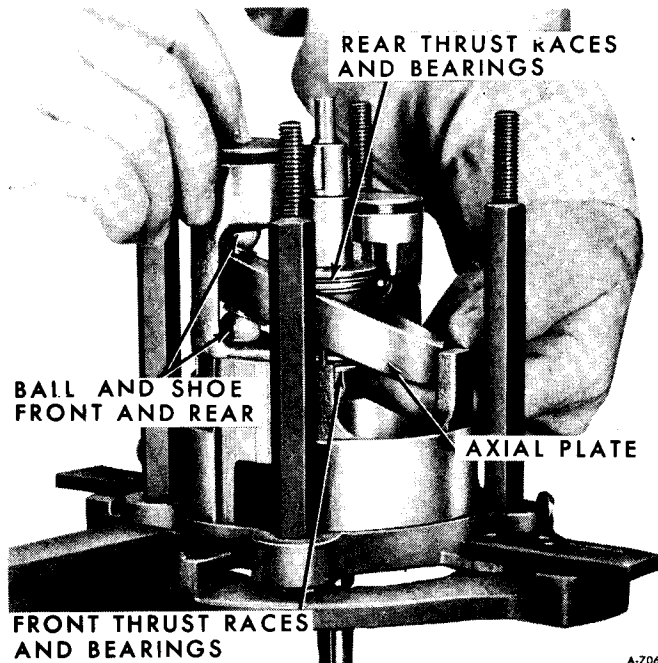

Figure 122—Installing 2nd Piston
4. Repeat this operation for pistons No. 2 and No. 3 (figure 122).